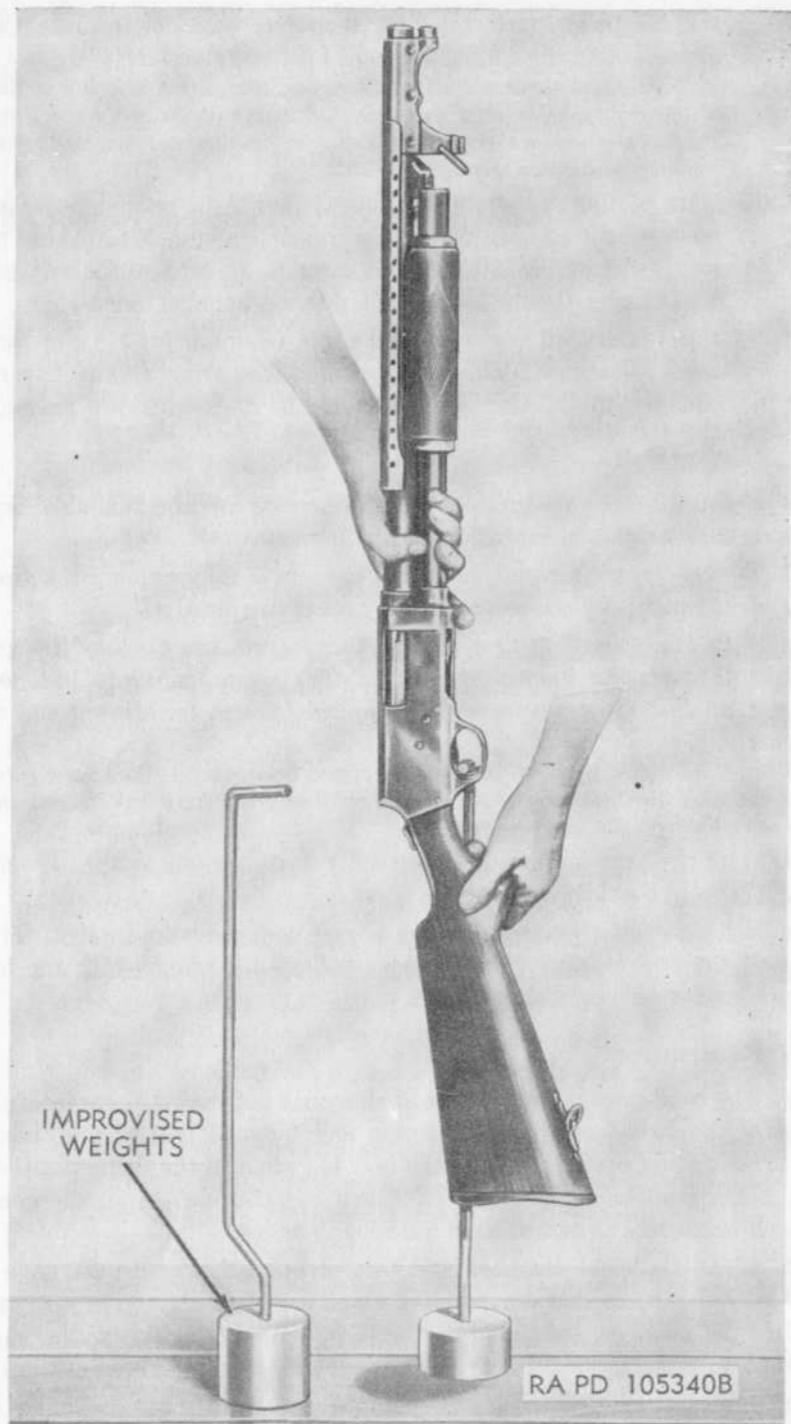

Figure 12. Testing trigger pull with improvised weights.
d. With the barrel of gun held vertically, raise the gun and the weight (fig. 12) from the floor as gently as possible.